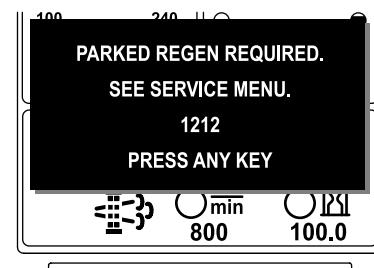

Figure 49
- Parked regeneration required ADVISORY #1212 (Figure 49)